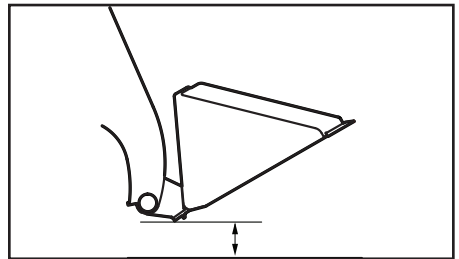

Fig. 27 - Transport Position
- Attachment Transport Position:** Carry materials 200-300 mm (8-12") above the ground, and adjust as necessary to clear obstacles. Generally, carry the load as low as safely possible. Tilt buckets back, as shown in Fig. 27, to prevent spilling material.